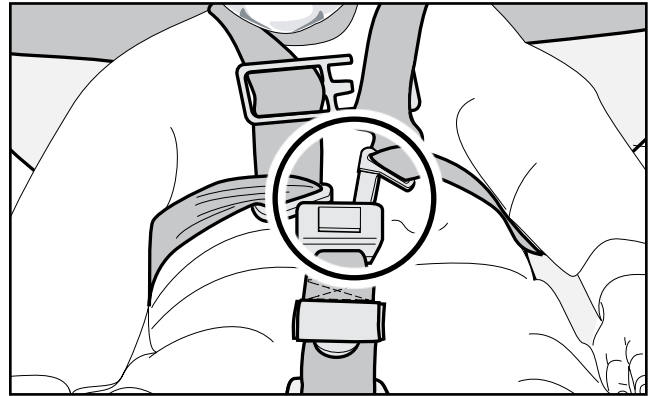

Figure 4 - Fastening a Shoulder Strap
5. Lift a shoulder strap over one of the patient's shoulders. Place patient's arm through the strap, then lock into the central buckle (Figure 4).